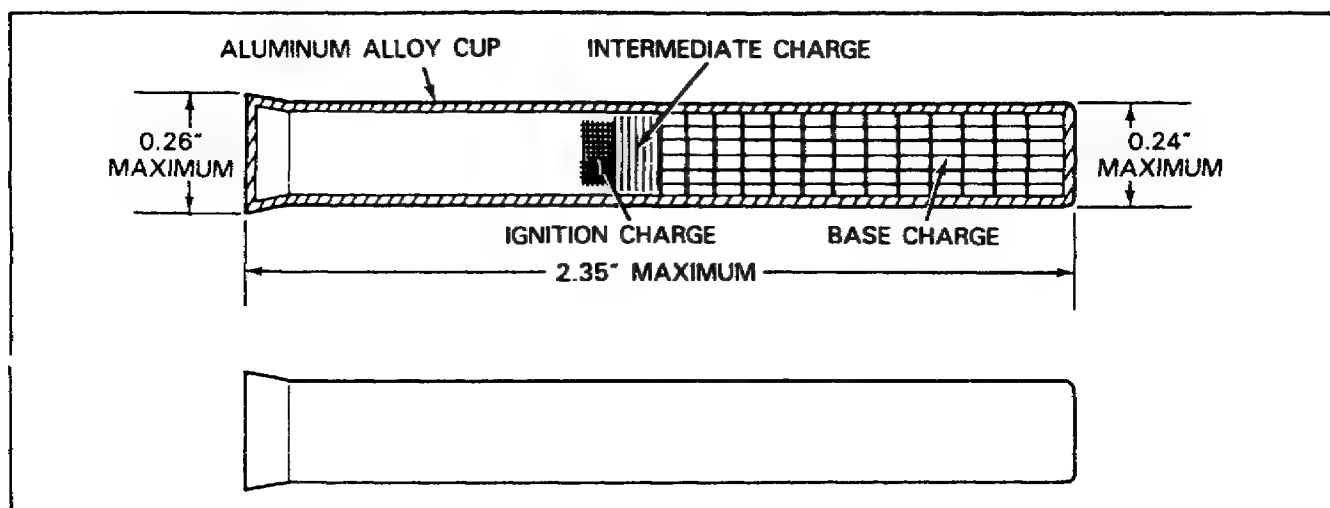

Figure 91. Cap, Blasting, Nonelectric, M7.
**Nonelectric Blasting Cap.** The M7 nonelectric blasting cap (Figure 91) looks like the electric blasting cap, but there are no lead wires on the M7 and one end is open. The nonelectric blasting cap is set off by a burning time fuse or by a detonating cord inserted in the open end of the blasting cap.